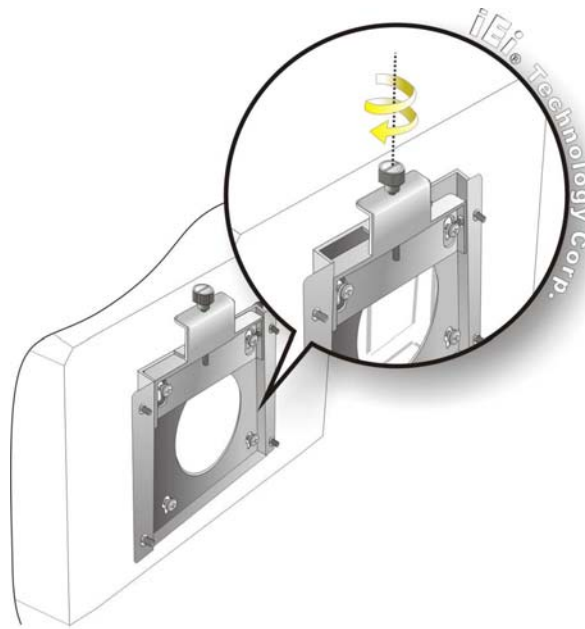

Figure 4-7: Secure the Embedded System
Step 9: Secure the embedded system by fastening the retention screw of the wall-mounting bracket. (Figure 4-7).